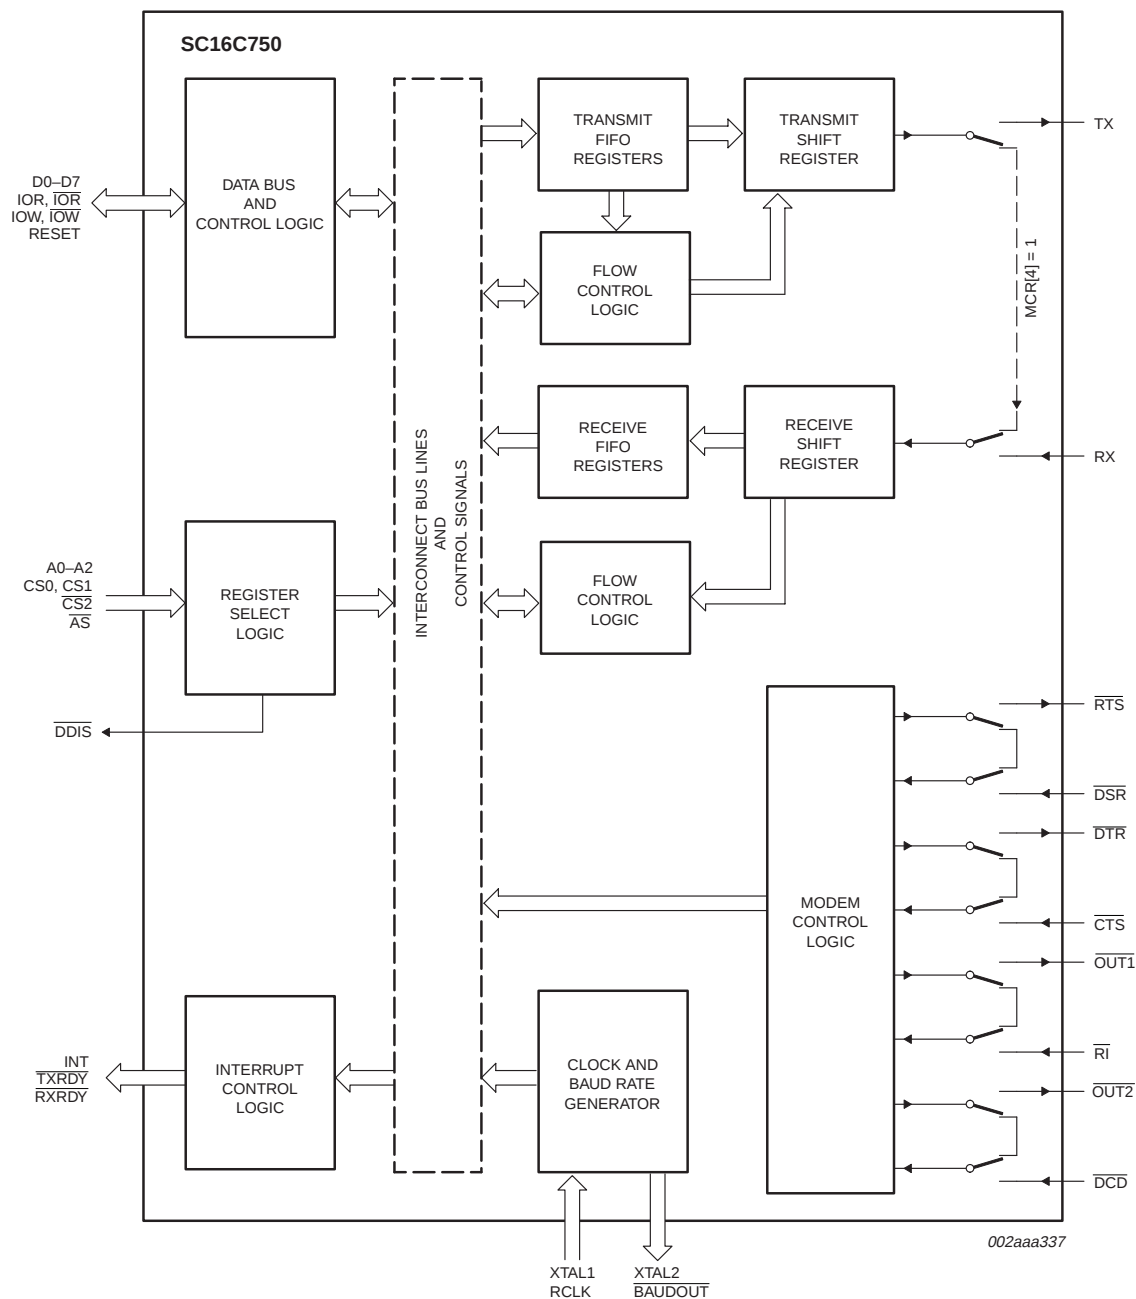

Fig 5. Internal loop-back mode diagram.
The internal loop-back capability allows on-board diagnostics. In the loop-back mode, the normal modem interface pins are disconnected and reconfigured for loop-back internally. MCR[0-3] register bits are used for controlling loop-back diagnostic testing. In the loop-back mode, OUT1 and OUT2 in the MCR register (bits 2-3) control the modem $\overline{\text{RI}}$ and $\overline{\text{DCD}}$ inputs, respectively. MCR signals $\overline{\text{DTR}}$ and $\overline{\text{RTS}}$ (bits 0-1) are used to control the modem CTS and $\overline{\text{DSR}}$ inputs, respectively. The transmitter output (TX) and the receiver input (RX) are disconnected from their associated interface pins, and instead are connected together internally (see Figure 5). The CTS, $\overline{\text{DSR}}$, DCD, and $\overline{\text{RI}}$ are disconnected from their normal modem control input pins, and instead are connected internally to $\overline{\text{DTR}}$, $\overline{\text{RTS}}$, OUT1 and OUT2. Loop-back test data is entered into the transmit holding register via the user data bus interface, D0-D7. The transmit UART serializes the data and passes the serial data to the receive UART via the internal loop-back connection. The receive UART converts the serial data back into parallel data that is then made available at the user data interface D0-D7. The user optionally compares the received data to the initial transmitted data for verifying error-free operation of the UART TX/RX circuits.